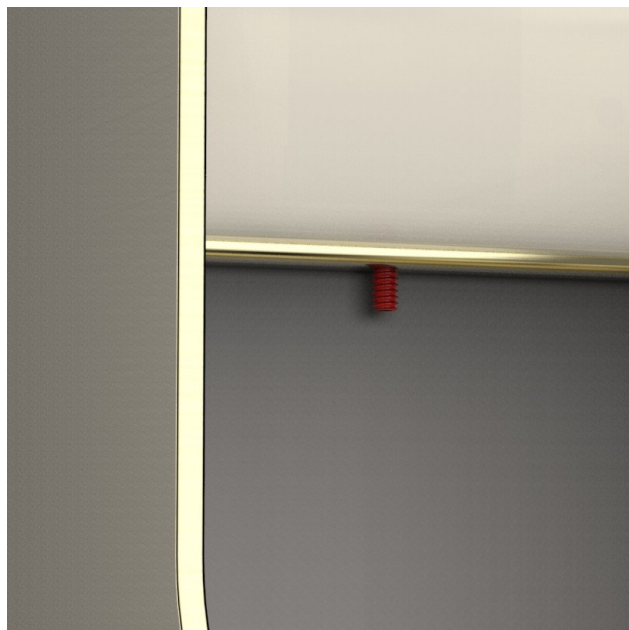

Figure 4
- Set screw shown in red for illustration. (Figure 4)